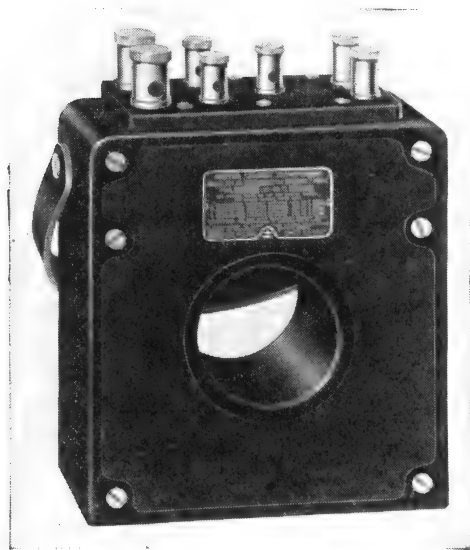

Fig. 21. Portable Current Transformer
**Current Transformers.** The current transformer, like the one shown in Fig. 21, is used in cases where very large alternating currents must be measured and also where current coils of instruments must be isolated for high-voltage lines. This enables lower range ammeters to be used than would ordinarily be required if the instrument were connected directly into the primary line.